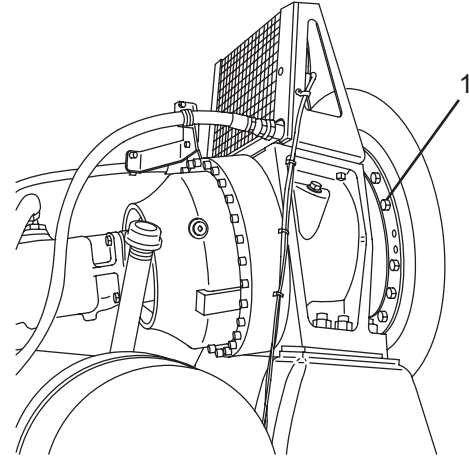
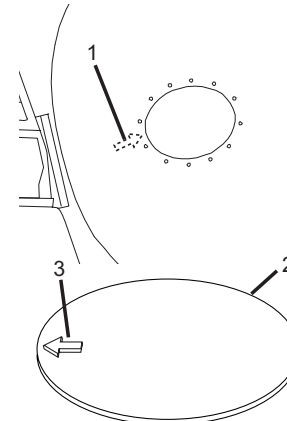

Figure 14
Figure 17
11. Check the drum flange bolt (Figure 14, Item 1) torque. (Refer to the Service Manual for torque values.) If a bolt turns during this check, that bolt must be removed and replaced with a new Grade 8 bolt.
10. Install the drum hatch (Figure 17, Item 2), aligning the arrow (Figure 17, Item 3) on the rear (interior) side of the drum hatch with the arrow (Figure 14, Item 1) in the interior of the hatch opening. Loosely install 12 drum hatch bolts.